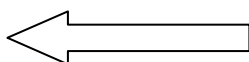

Figure 15: lower range value [4mA]; span 0%
- set the DIP switch positions to the 0/1 sequence in Fig.15 on the left; start from position 8 and move towards position 1!